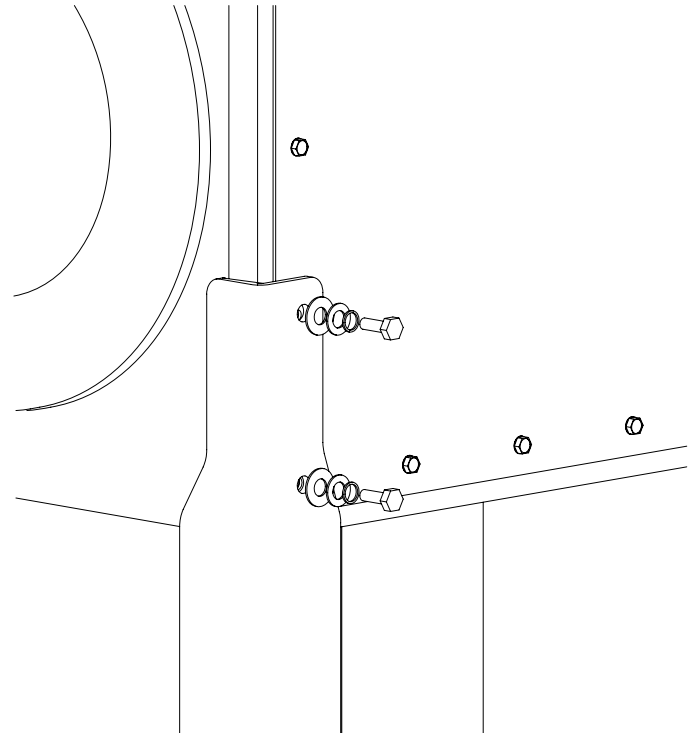

FIGURE 3
3. Bolt on each of the legs. The two lower bolts at each corner will be removed and used to attach each corner leg (see Figure 3). Attach middle legs with provided hardware (see Figure 4).